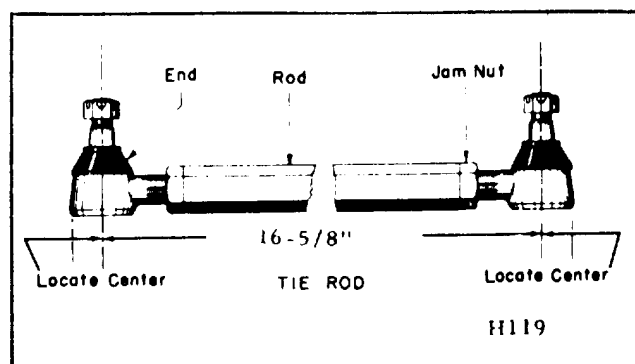

Figure 6.
1. Locate and mark the center of each tie rod end (Fig. 6) using a machinist rule fitted with a circle-center-finder attachment. Follow the instructions of attachment manufacturer and make the center mark on the housing of the tie rod end, opposite the ball stud.